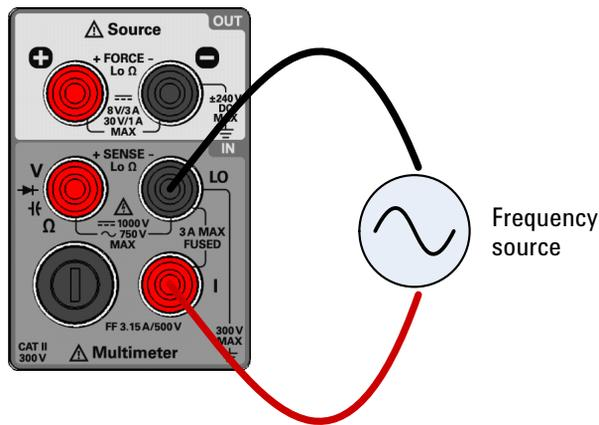

Figure 2-6 Terminal connections for frequency, pulse width, and duty cycle measurement via the current path
- 2 Connect the red and black test leads to input terminals **I** (red) and **LO** (black) respectively as shown in Figure 2-6.
- 3 Connect the red and black test leads to input terminals **I** (red) and **LO** (black) respectively as shown in Figure 2-6.